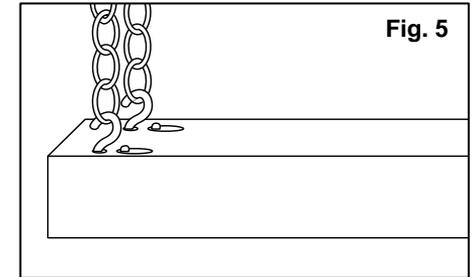

Fig. 5
2. Attach a **chain** to each **S-Hook**, then attach each **chain** to the ceiling via your preferred mounting option. (Fig. 5)